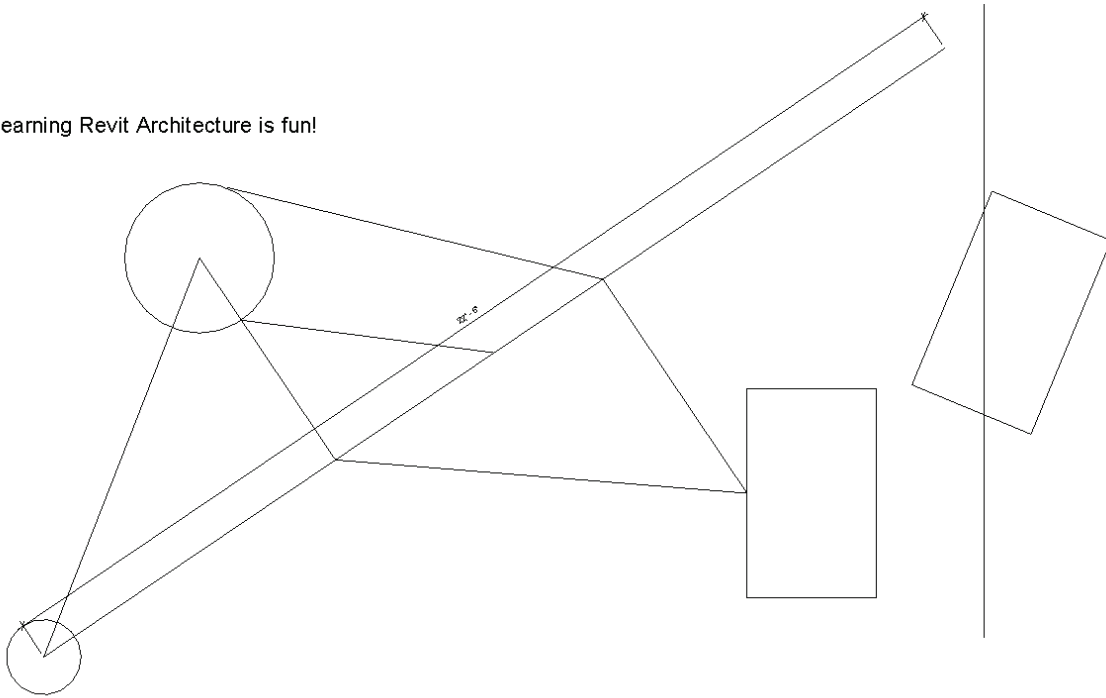

FIGURE 3-4.5 Text tool; text added to current view
Your text should generally look similar to Figure 3-4.5.
9. Print your drawing; refer back to page 2-15 for basic printing information. Your print should fit the page and look similar to Figure 3-4.5.